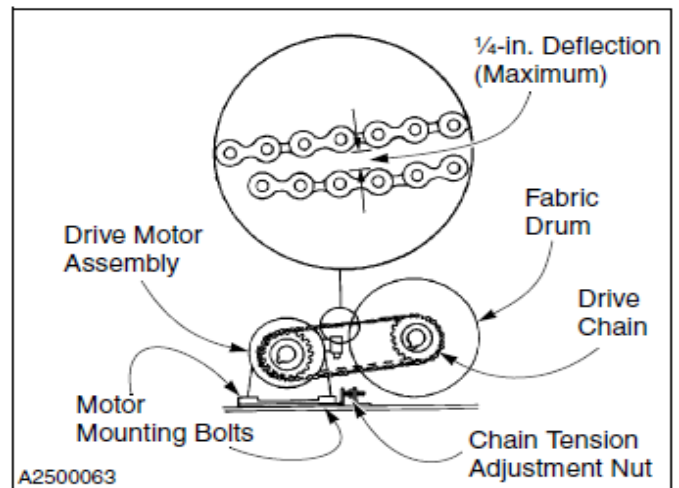

Figure 53
2. Verify the amount of tension in the drive chain. A correctly tensioned chain will deflect no more than $\frac{1}{4}$ in. (See Figure 53)